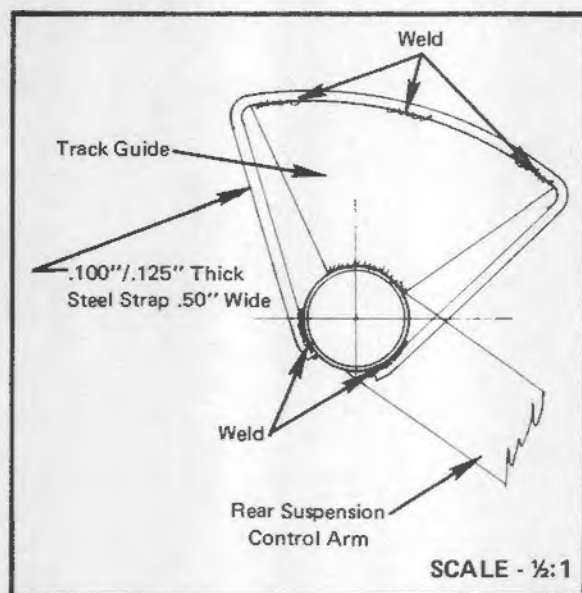

Figure 1. Reinforcing Rear Suspension Control Arm
- If track guide has NOT BROKEN loose from control arm, securely weld a steel strap (.100"/.125" thick x .50" wide) to track guide and control arm, as shown in Figure 1.